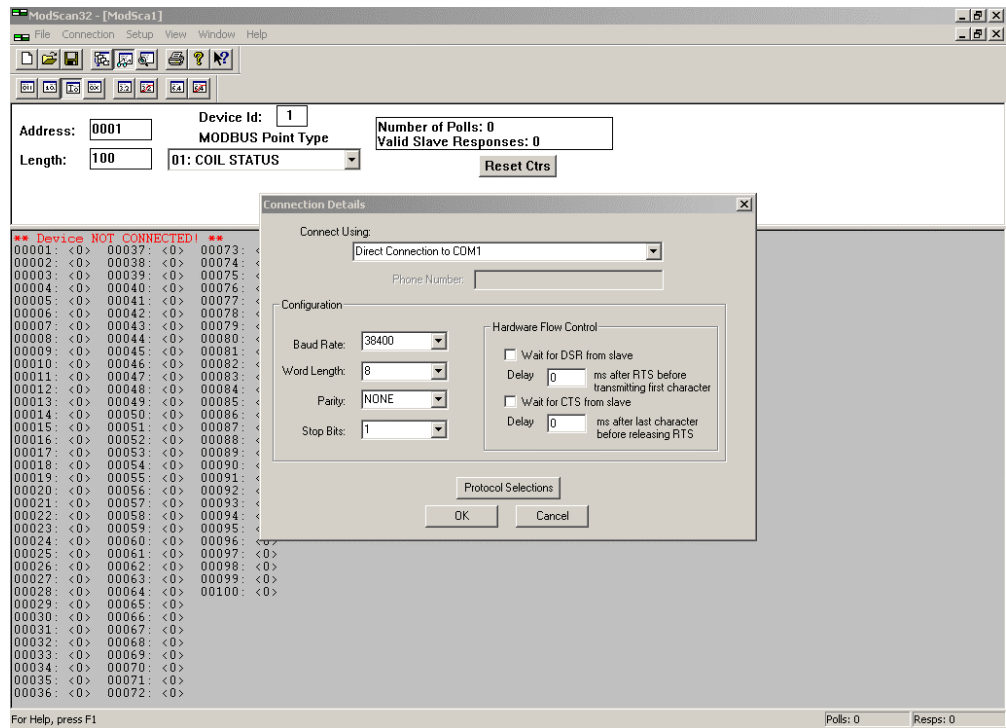

FIGURE 20-16. FT-10 NETWORK CONNECTION DETAILS DIALOG BOX
1. From the tool bar, select Connection → Connect. The Connection Details dialog box is displayed (see Figure 20-16). The Device ID is 1.
shown in Figure 20-16. Use the pull down menus to change these settings as necessary.